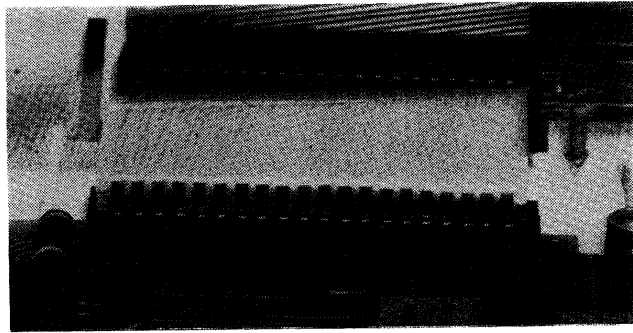

Figure 3-2. Aligning Cable Contacts
- a. Carefully align the contacts of the cable with the contacts of its connector, as shown in figure 3-2. The cable contacts must face the connector contacts.